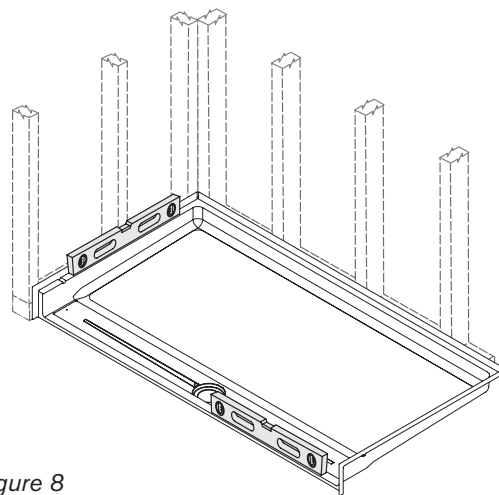

Figure 8
- 14 Lower pan into position; **do not drag or slide it**. Make sure the front aligns with curb line drawn in Step 3. Avoid stepping on pan until mud set has cured; follow curing instructions for the type of mud set used. Check ledges and front edge with a level. (Figure 8)